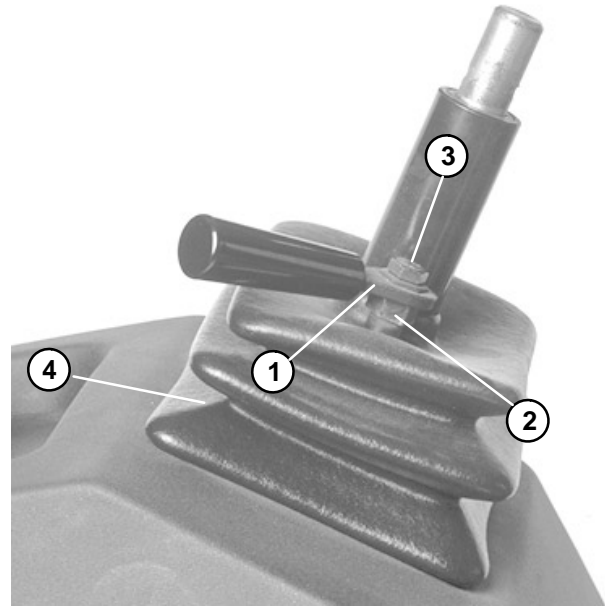

Figure 36
3. Remove adjustment lever from tilt lock pin by first removing cap screw (Fig. 36).
4. Secure adjustment lever to tilt lock pin with cap screw (Fig. 36).